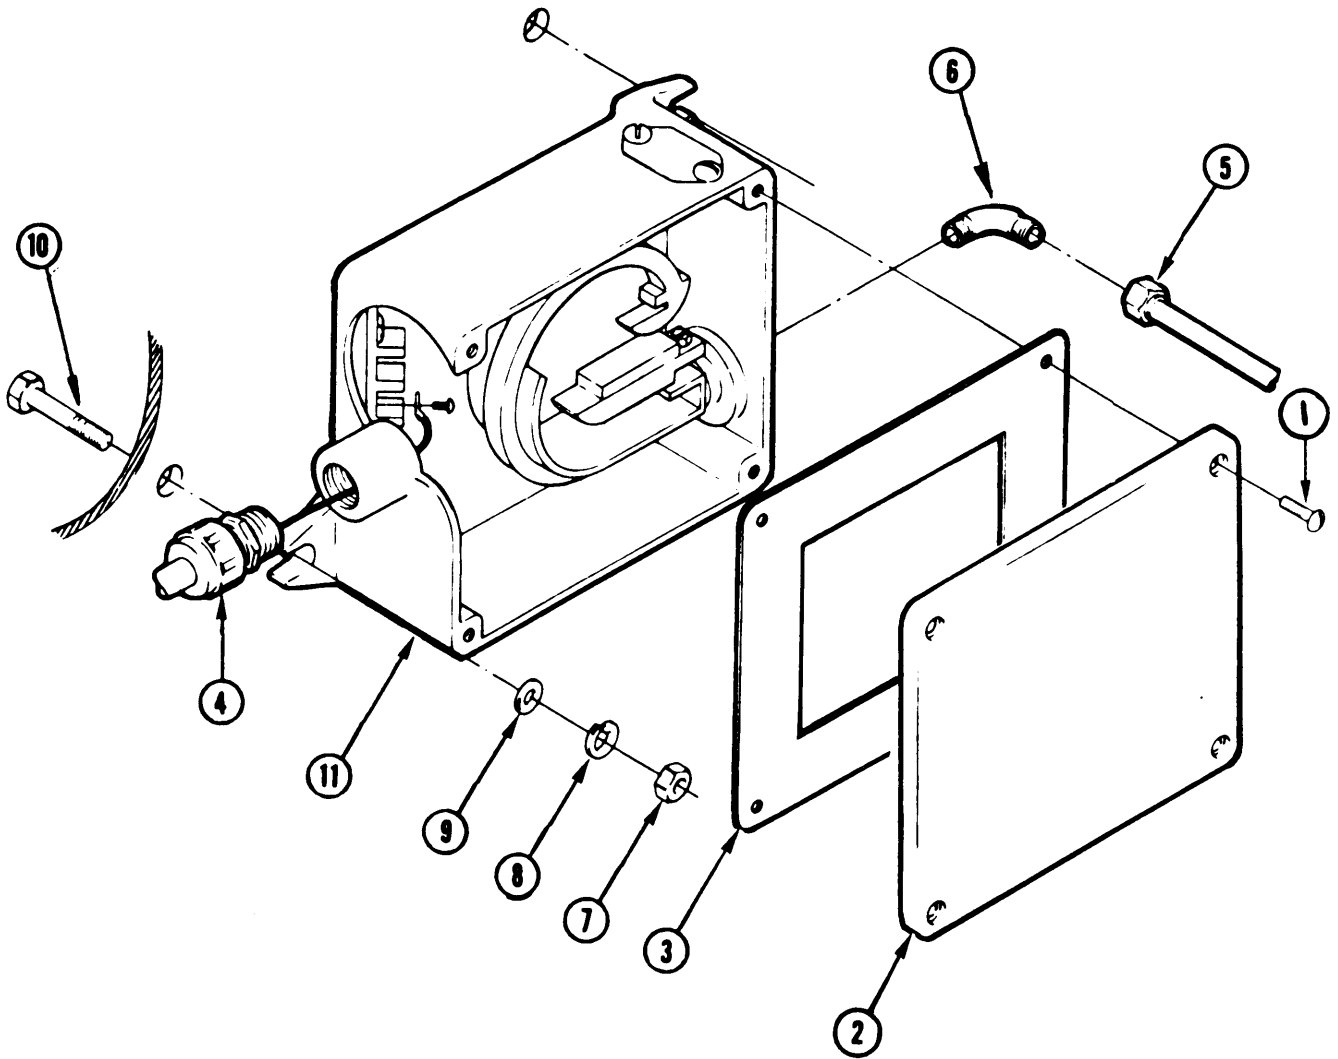
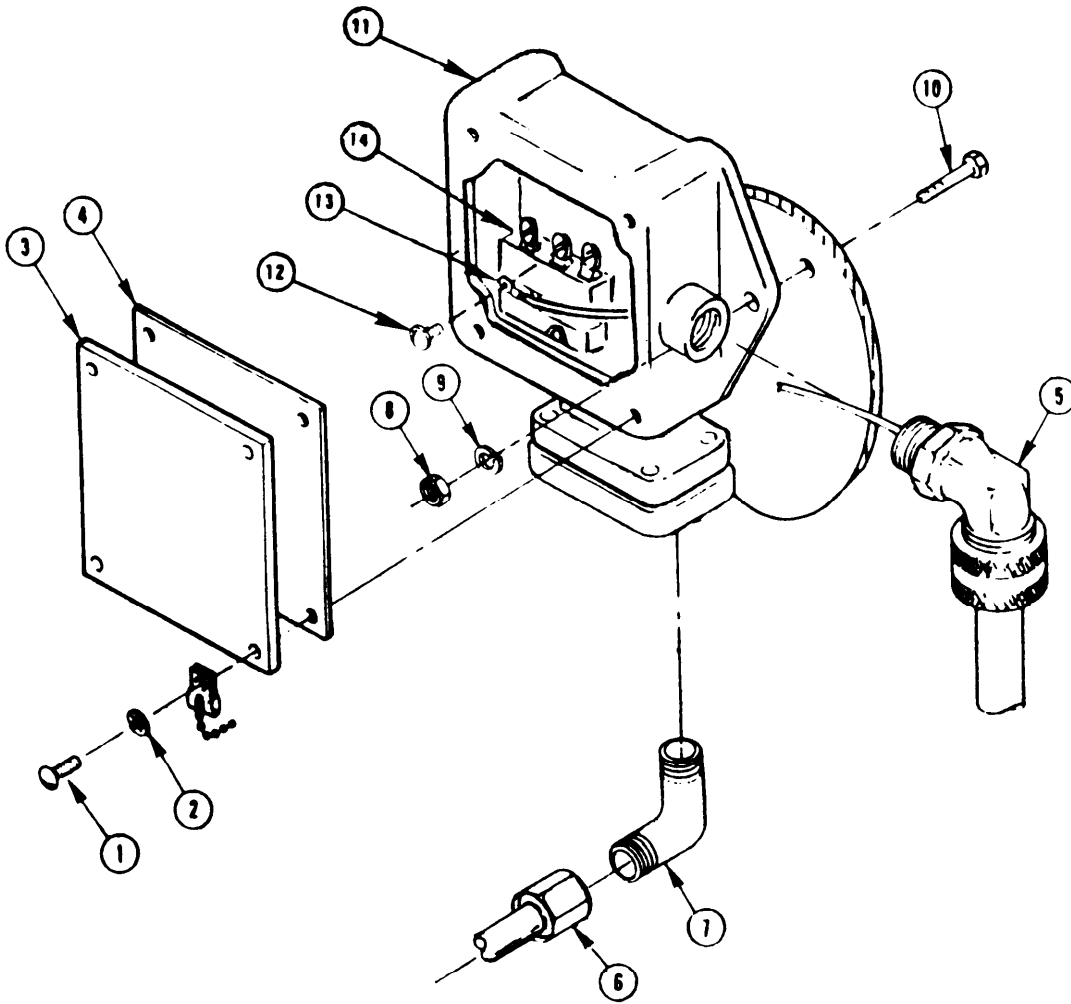

Figure 2-56. High-Pressure Switch
Figure 2-57. Low-Pressure Switch
b. Removal of High-pressure Switch. (Figure 2-56)
- (1) Open VENT VESSELS valve and VENT PULSE DAMPENER valve.
- (2) Remove four screws (1) from high-pressure switch (11), gasket (3), and cover (2).
- (3) Remove cover (2) and gasket (3) from high-pressure switch (11).
- (4) Remove sealing grip (4) from high-pressure switch (11) in accordance with paragraph 2-63.
- (5) Unscrew coupling nut and disconnect pressure tube (5) from elbow (6).
- (6) Remove elbow (6) from high-pressure switch (11).
- (7) Remove two nuts (7), two lockwashers (8), and two flat washers (9) from screw (10).
- (8) Remove two screws (10) from high-pressure switch (11) and control panel.
- (9) Remove high-pressure switch (11) from control panel.
c. Removal of Low-Pressure Switch. (Figure 2-57)
- (1) Open VENT CARTRIDGE FILTER valve.
- (2) Remove four screws (1) and four lockwashers (2) from low-pressure switch (11), gasket (4), and cover (3).
- (3) Remove cover (3) and gasket (4) from low-pressure switch (11).
- (4) Remove two screws (12) from terminal lugs (13) and switch (14).
- (5) Remove sealing grip (5) from low-pressure switch (11) in accordance with paragraph 2-63.
- (6) Unscrew coupling nut and disconnect pressure tube (6) from elbow (7).
- (7) Remove elbow (7) from low-pressure switch (11).
- (8) Remove two nuts (8) and two lockwashers (9) from screw (10).
- (9) Remove two screws (10) from low-pressure switch (11) and control panel.
- (10) Remove low-pressure switch (11) from control panel.
- (1) Replace all gaskets.
- (2) Replace damaged or unserviceable pressure tube assembly.
- (3) Replace damaged or unserviceable pressure switch assembly.
- (4) Send damaged switch to Direct Support Maintenance for repair.
- (5) Replace damaged or worn electrical power cables.
- (6) Replace all damaged screws, bolts, nuts, and washers.
g. Installation of High-Pressure switch. (Figure 2-56)
- (1) Hold high-pressure switch (11) in place on control panel.
- (2) Insert two screws (10) through control panel into high-pressure switch (11).